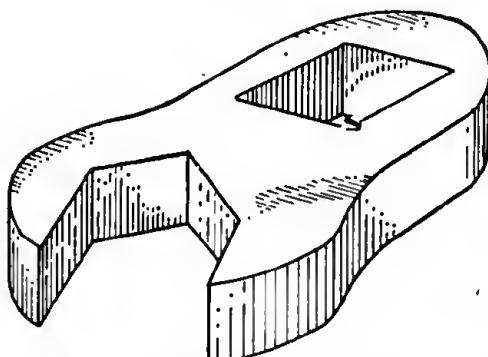
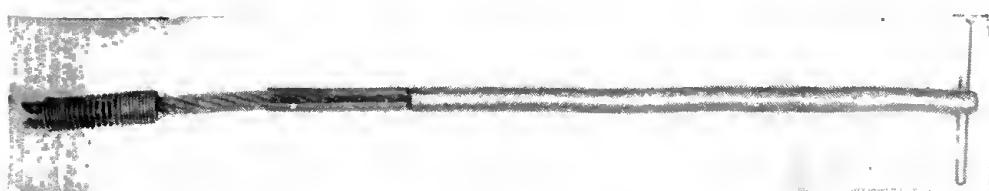

Figure 35. Starter and generator stud-nut wrench.
Figure 36. Hose-clamp wrench.
n. STARTER AND GENERATOR STUD-NUT WRENCH. (1) This is a small wrench about 2 inches long. One end is open and fits the attaching nuts of the starter and generator. The other end has a square hole for an extension bar. (See fig. 35.)
(2) An open-end wrench will fit the attaching bolts on a starter and generator, but cannot be used because the magnetos are in the way. With the starter and generator wrench, the extension bar allows the handle to reach behind the accessories where its swing is not hindered.
o. HOSE-CLAMP WRENCH. (1) A hose-clamp wrench consists of a fitting for the hose-clamp thumb screw fastened on one end of a piece of wire cable through a universal joint, and a handle on the other end. It is about 20 inches long. (See fig. 36.)